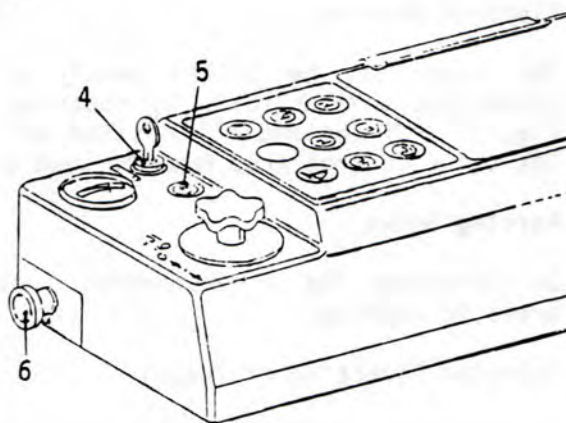

Fig. 10 Controls
Insert the switch key (4 Fig. 10) and turn it fully clockwise. Release both Emergency OFF switches (6 Fig. 10), by turning in direction of arrow; the indicator lamp (5 Fig. 10) illuminates.